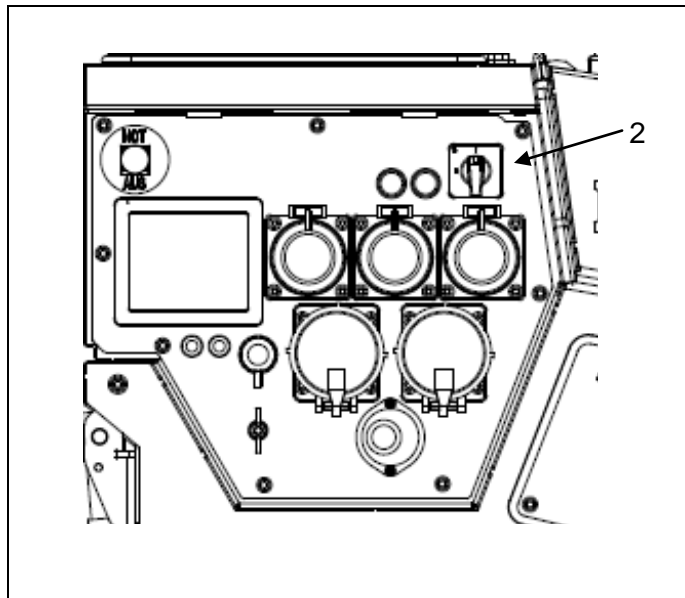

Figure 4-2: Standard design of operating panel
2. Turn the START-STOP switch (*Figure 4-2-(2)*) completely to the right into the position "START" until the engine starts and then release.
3. Set the START-STOP switch (*Figure 4-2-(2)*) to position "1"
3. Set the START-STOP switch (*Figure 4-2-(2)*) to position “0”